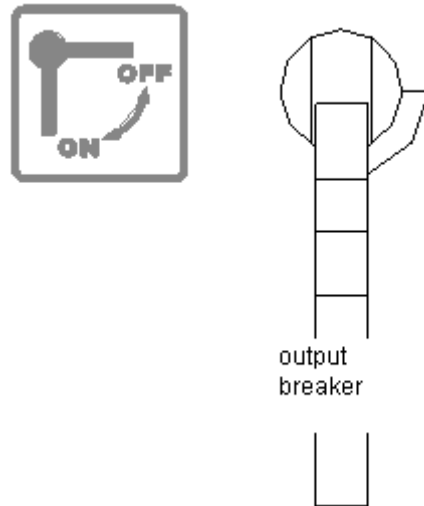

Fig.10.4
2. After all of the UPS modules have transferred to the bypass mode, set the output breaker of the UPS to the position of ON (Fig. 10.4) .